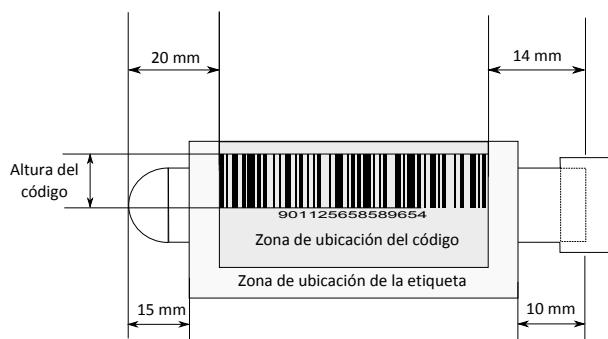

Figure 7 Positioning of the label on the primary tube
- Respect the barcode label position margins, as shown in Figure 7.